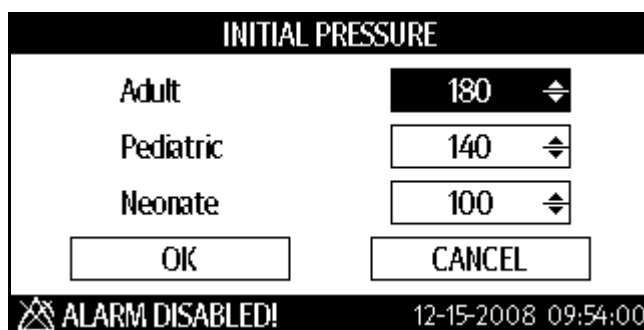

FIGURE 3-10 Example NIBP Cuff Initial Pressure Dialog
6. Press (16) or (19) to highlight **INITIAL PRESSURE** to display the INITIAL PRESSURE dialog as shown in FIGURE 3-10.
7. Once **INITIAL PRESSURE** is highlighted, press (18) select it.